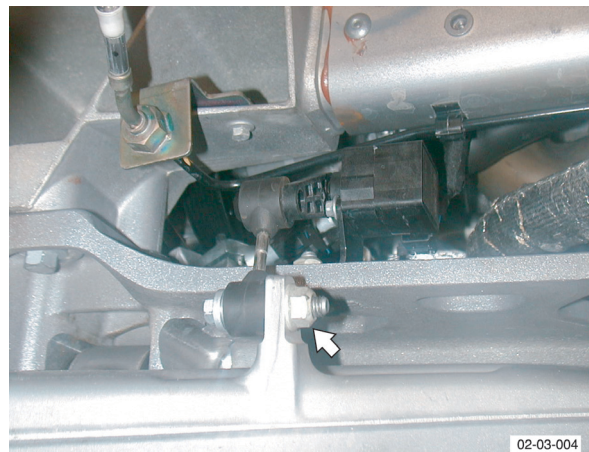

Fig. 1
14. Remove ride height sensor link nut and bolt from lower suspension arm (see Fig. 1).